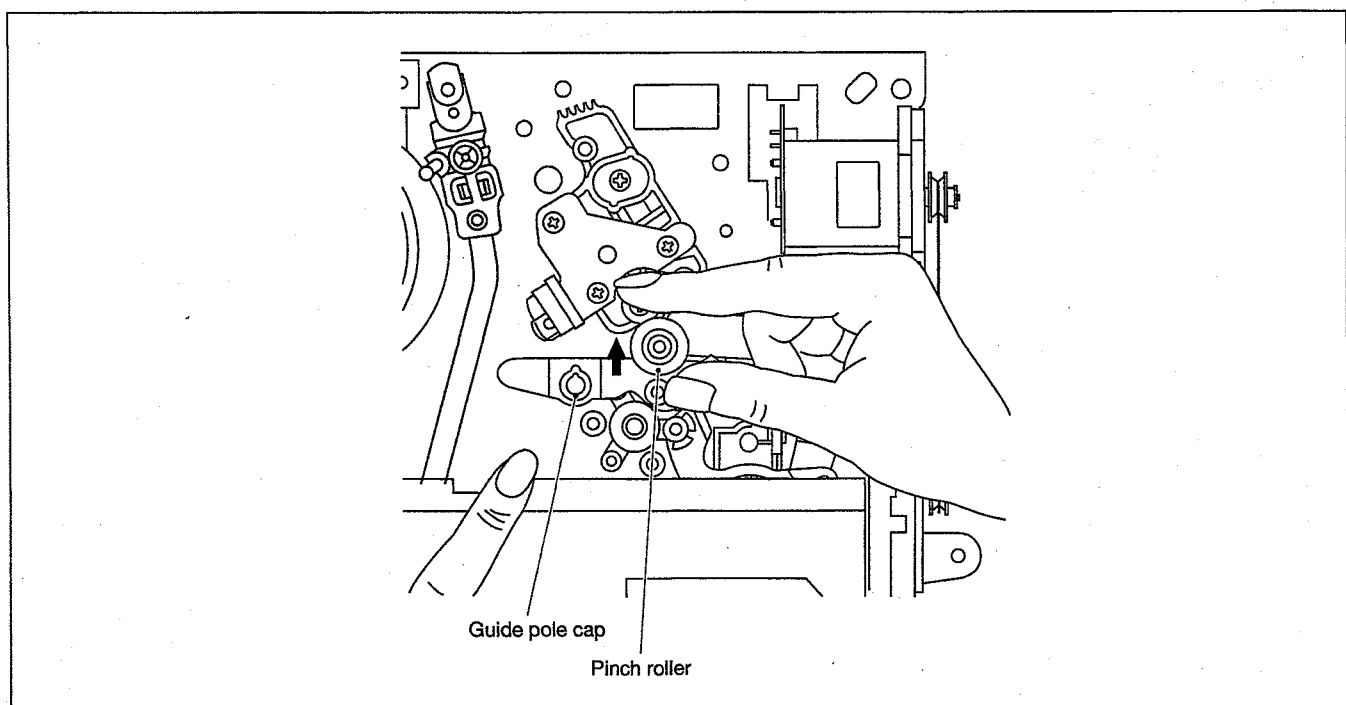

Fig. 2-1-4
- (3) Remove the top guide as done in Step (4) of "1 In case of electrical failures" and remove the guide pole cap at the same time. (See Fig.2-1-4).
- (4) While lifting the cassette tape lid, hold the cassette tape case and pinch roller by the fingers and move them toward the loading motor to relieve pressure on the tape. Then remove the tape while taking the cassette case out of the cassette holder. (See Fig.2-1-4).
- (5) Re-place the guide pole cap and take up the slack of the tape into the cassette.